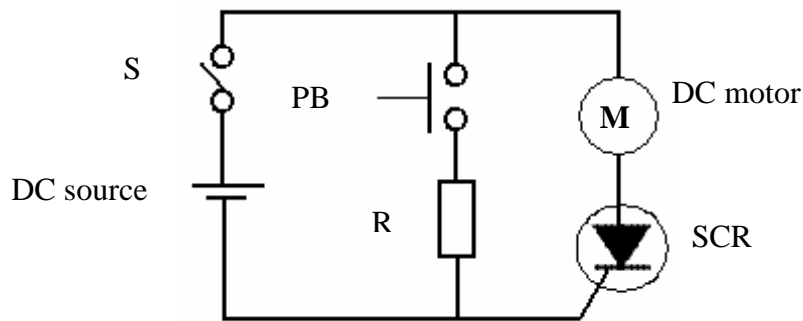

Figure 4
5. Figure 4 shows an electronic circuit using SCR for switching operation.